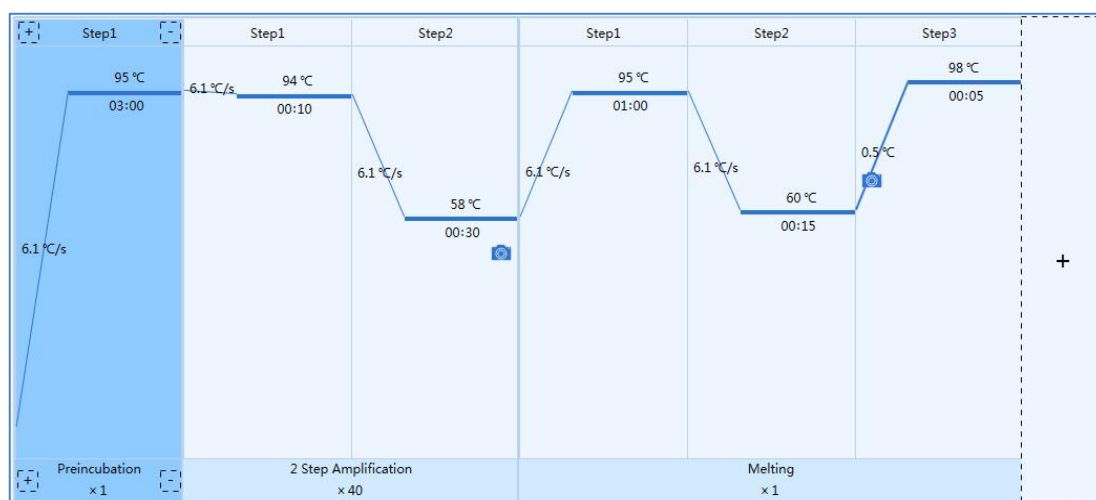

Figure D-5.1. Temperature Program Area – Example Temperature Program
1. **Temperature program area:** user can view the temperature program of the current experiment, or edit its stages and steps in this area, as shown in figure D-5.1.